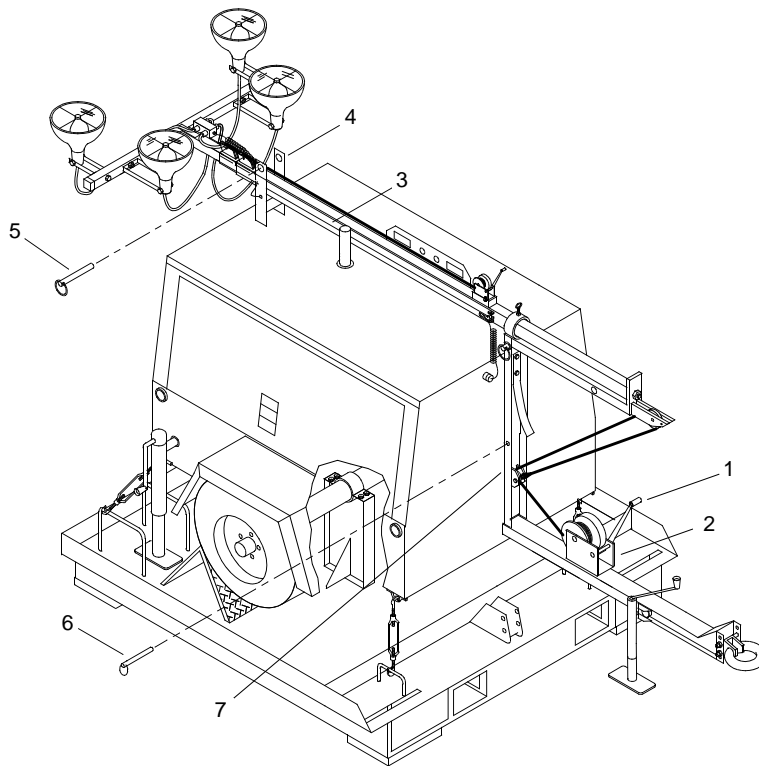

Figure 4. Stowing Light Tower
5. Turn hand crank (figure 4, item 1) on drawbar winch (figure 4, item 2) counterclockwise to lower tower (figure 4, item 3) onto tower rest (figure 4, item 4).
6. Install tower rest retaining pin (figure 4, item 5) into tower rest (figure 4, item 4).
7. Install lock pin (figure 4, item 6) into tower support (figure 4, item 7).